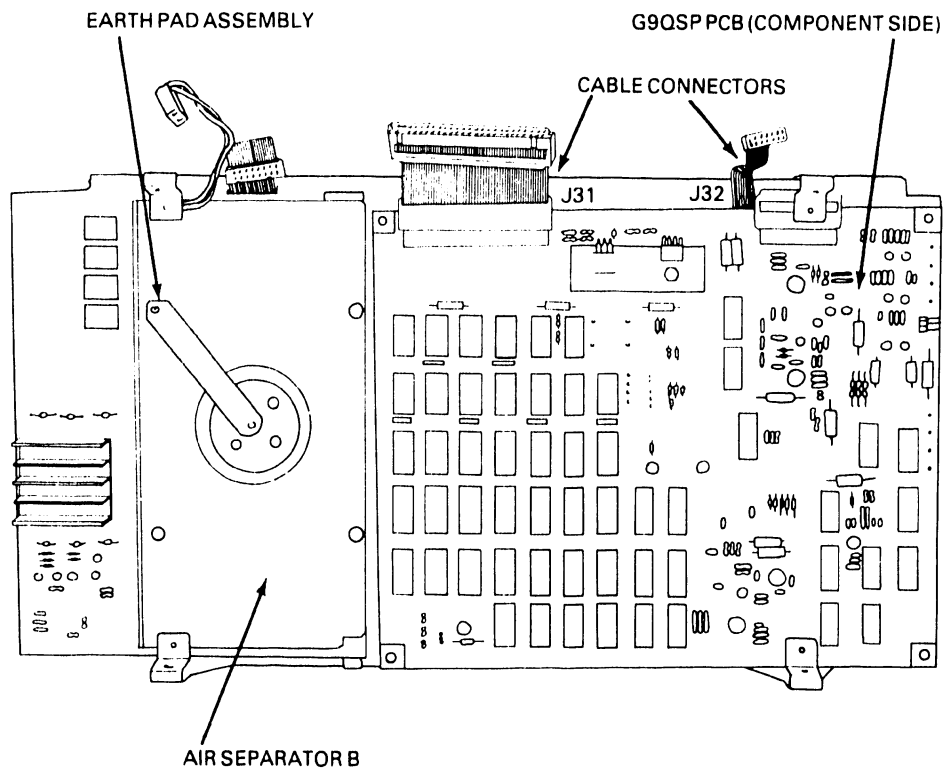

Figure 4-4 G9QSP Cable Connectors
6. Disconnect cable connectors J31 and J32 (see Figure 4-4).
7. Lift the G9QSP PCB slightly and slide it away from the earth pad assembly to remove it (see Figure 4-4).
4. Remove the screw that attaches the earth pad assembly to the smaller air separator (air separator B — see Figure 4-4).
5. Remove the three screws that secure air separator B to the drive unit (see Figure 4-4).